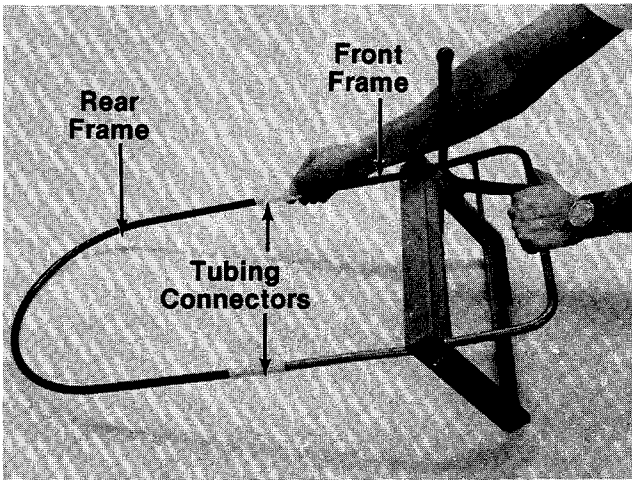

FIGURE 11.
1. Connect the front and rear frames by pushing the tubing connectors (K) onto the ends of the rear frame. See figure 11.